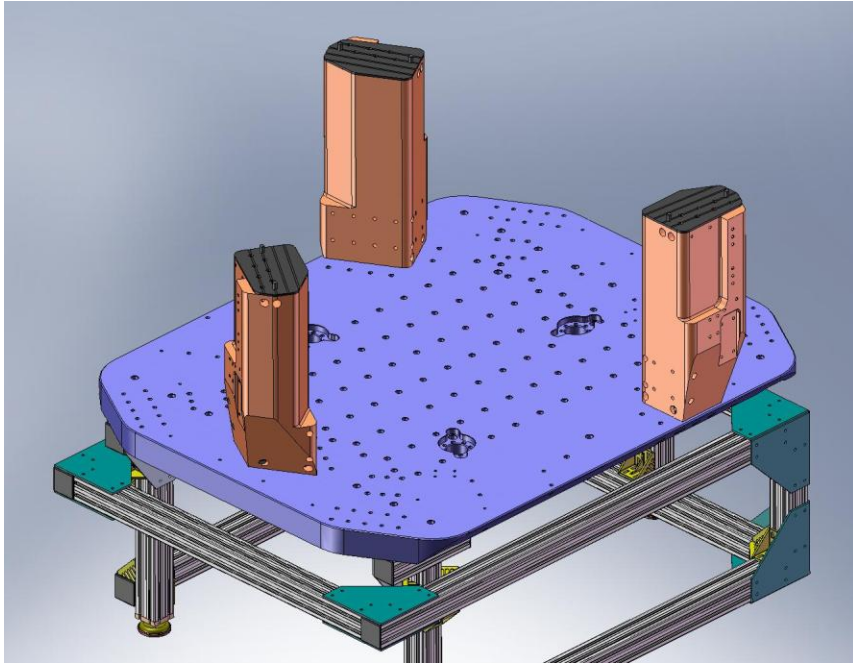

Figure 1.18. Support Post Caps placed on the Support Posts. Later, the Springs will be mounted on top of the Caps.
- Place (3) **Support Post Caps** (D071003) on top of the **Support Posts**, as shown in Figure 1.18. There are a hole and a slot in each **Cap**, which should slip around the dowel pins in the **Posts**. *We start using the (Stainless Steel) Caps now, to reduce the risk of accidental damage to the tops of the (Aluminum) Posts.*